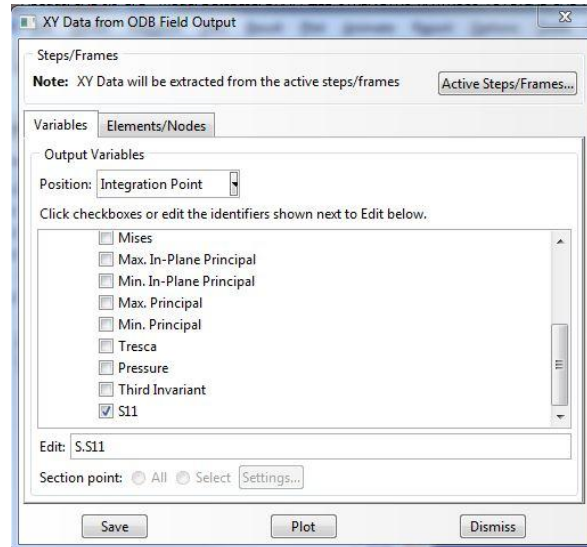

Figure 38. XY Data from ODB Field Output
- The **XY Data from ODB Field Output** dialog box will appear (Figure 38). Under the **Variables** tab click the **black arrowhead** next to **S: Stress components**  **S: Stress components**. This click will expand the selection for more options. Scroll down and check the box next to **S11**. All other stress components should be left unchecked.